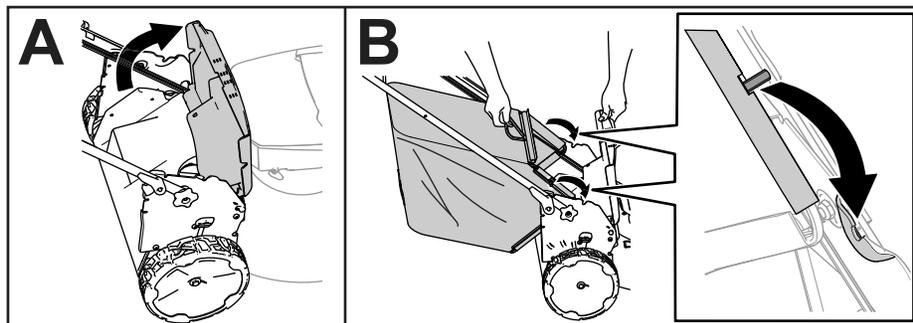

Figure 10
1. Lift up the rear deflector (A of Figure 10).
2. Insert the rod ends of the grass bag into the notches in the handle brackets (B of Figure 10).